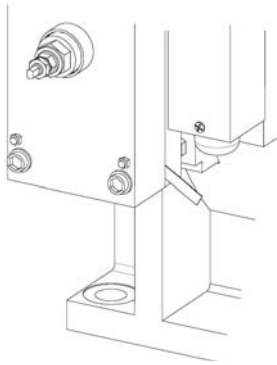
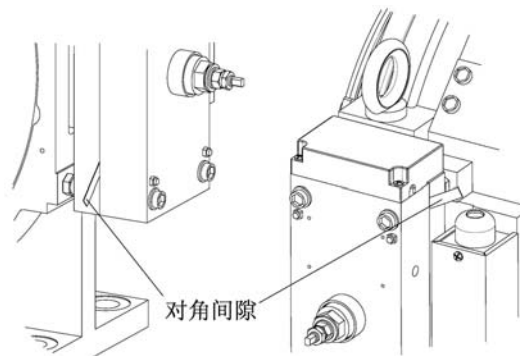

Fig.26 Diagonal clearance
Fig.27 Remaining diagonal clearances
5. After the air gap on one corner of the brake is completed, following the steps as shown in 1-4 First adjust the diagonal air gap as shown in Fig.26 on P18 and then adjust the remaining two air gaps as shown in Fig. 27 on P18;